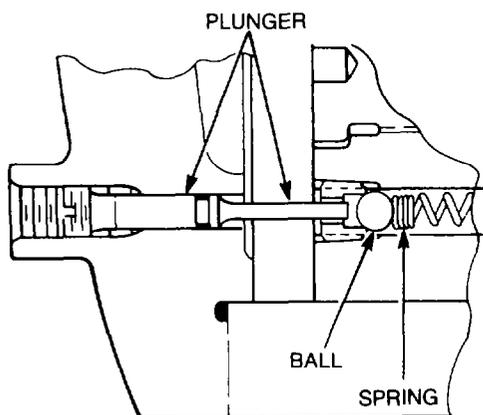

Figure 295 — Relief Valve Plunger — Adjustment
- b. Adjust the bearing cap plunger either in or out until 3.2 mm (0.125 in.) clearance is obtained at the wheel stops. Repeat the same procedure for the cylinder head plunger (see Fig. 295).